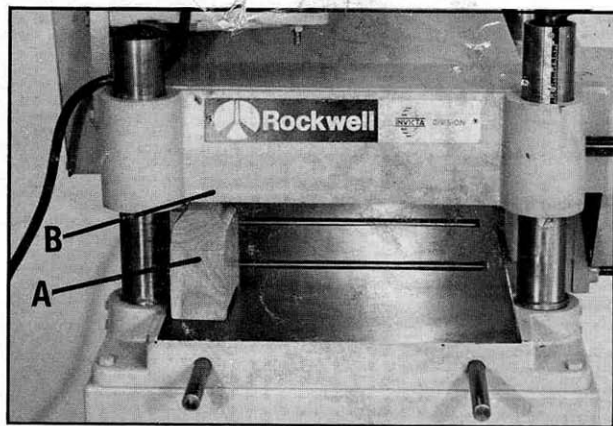

Fig. 59
2. Place gage block (A) Fig. 59, on table directly under front edge of head casting (B) as shown. Lower head casting until front edge of head casting (B) just touches gage block.